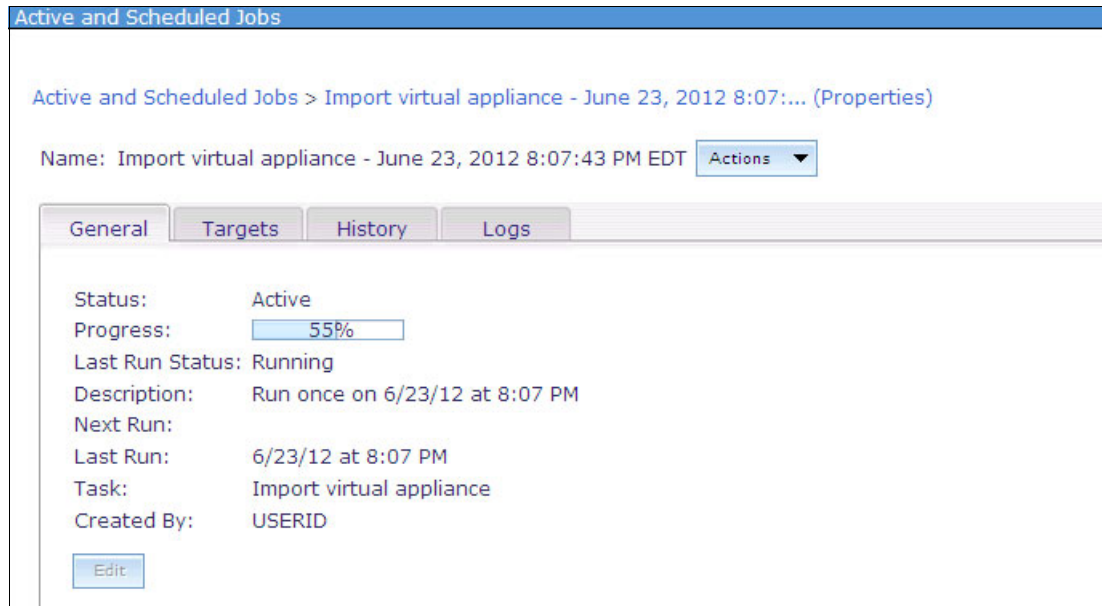

Figure 9-122 Import appliance job progress
11. Click **Display Properties** to open the Active and Scheduled Jobs window as shown in Figure 9-122.